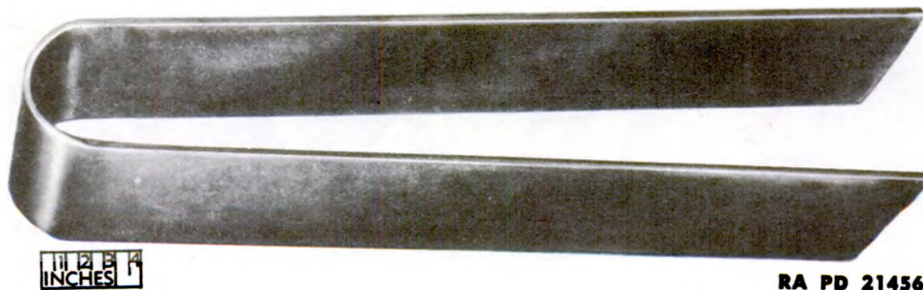

Figure 211 – Cartridge Remover B200491
g. Cartridge Remover. This remover (fig. 211) is used to remove cartridges from the automatic loader. The remover is U-shaped in appearance. When in use, it is pressed over the cartridges and forces the feed and stop pawls of the automatic feed loader device clear, allowing removal of the cartridges. The remover and cartridges are removed together, out of the top of the loader, the pawls being depressed clear.
automatic loader between the feed rollers, and force the cartridges upward into the cartridge remover (fig. 211). Care must be taken not to use undue pressure when forcing the rounds upward.